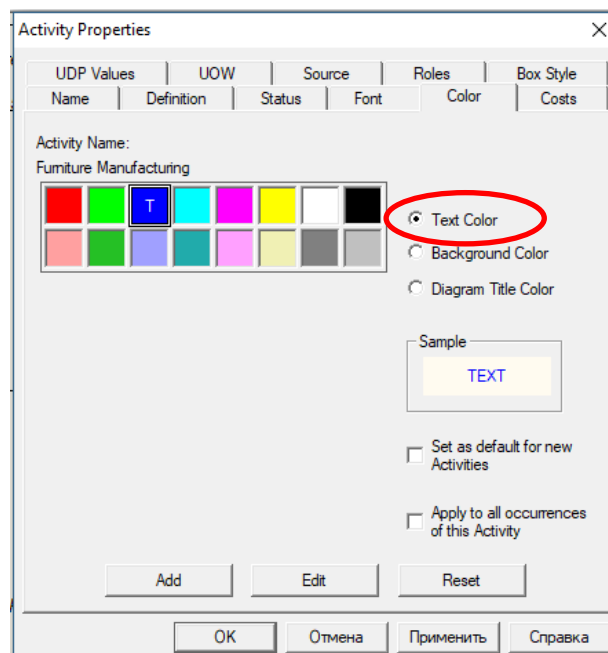

Fig. 1.21. Choosing a text and arrow color
2. Choose the color and click the button **OK** (fig. 1.21).